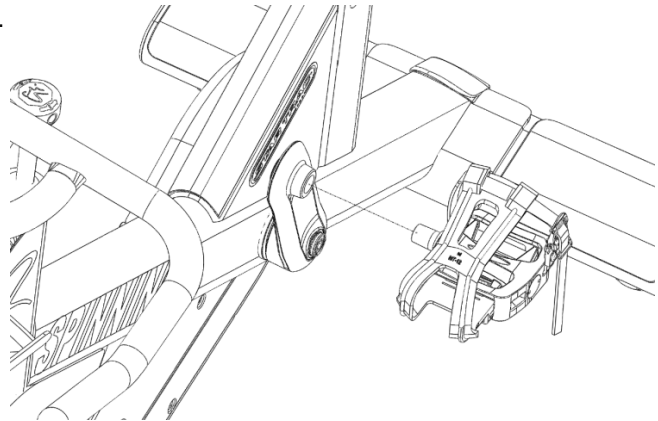

Fig. 23
23. Insert each pedal into its corresponding crank arm (Fig. 23).